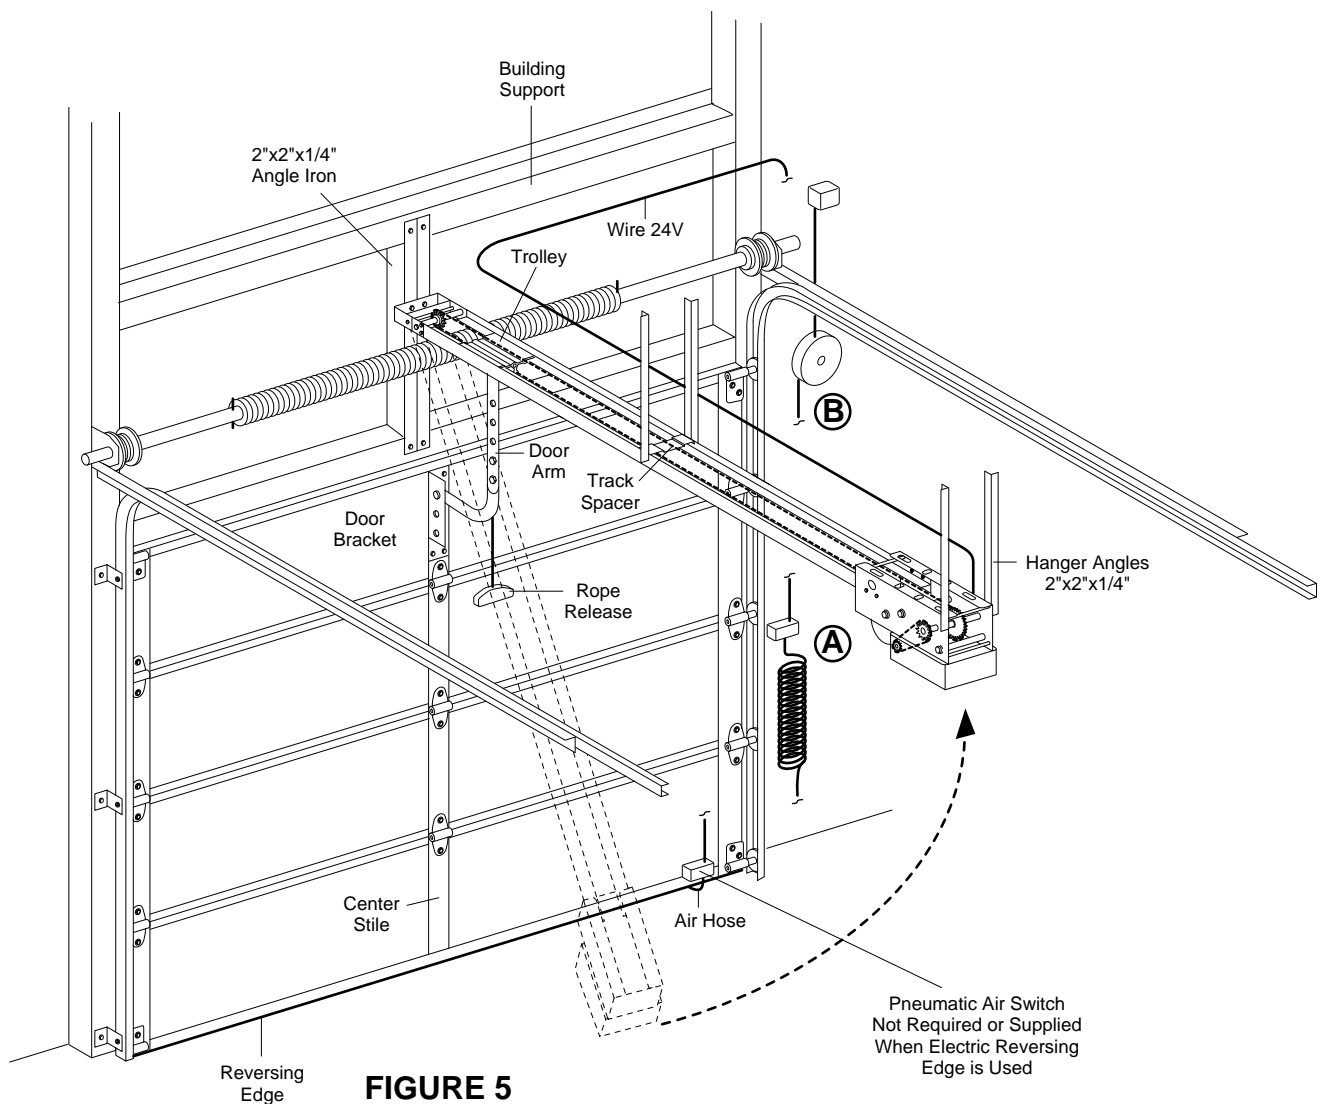

FIGURE 5
9. Raise operator straight up until the door can be raised to the full open position. See Figure 5. Temporarily secure to ceiling or rafters with rope or other suitable means.
The operator has been pre-wired to accept connection of a reversing edge device (Figure 5, Page 5). Connect the normally open contacts to terminals T6 and T8 on the low voltage terminal block. A cut-off switch will de-activate the safety device during the last few inches of the door's downward travel.